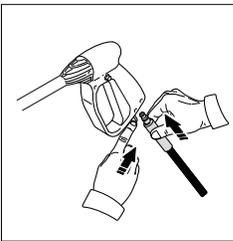

Fig. 3
- Connect the other end of the high pressure hose to the spray gun by inserting the silver metal tip of the high pressure hose into the fitting under the trigger guard. It will lock into the spray gun with a “click” (Fig. 3). Confirm the hose is locked into the spray gun by pulling slightly on the hose. The hose is now securely attached to the spray gun.